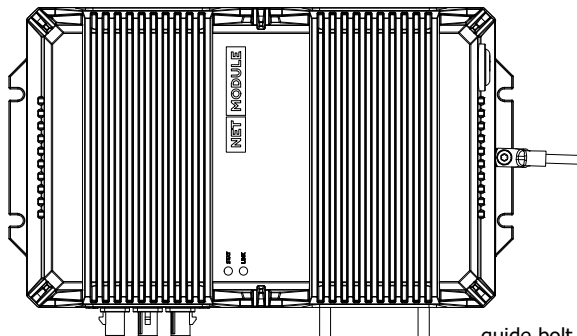

figure8
- 6.1 Place the cable with the Molex connector (figure8)
- 6.2 Turn the bracket clockwise to the position unlocked (figure8)